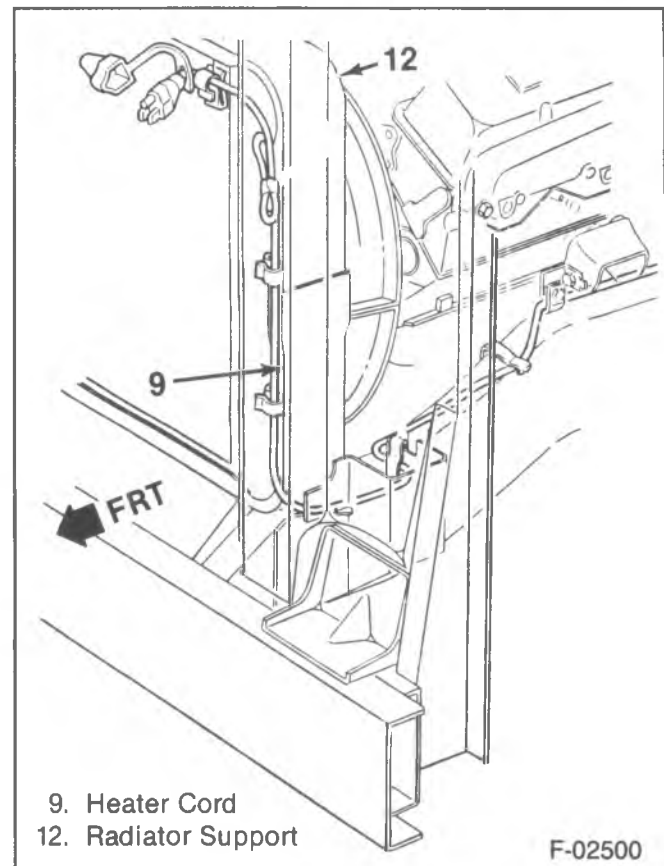

Figure 37—Heater Cord Wiring,
4. Route the heater cord so that it does not touch the engine, hot pipes, manifold, or any moving parts. Refer to figures 37, 39, 40 and 41.